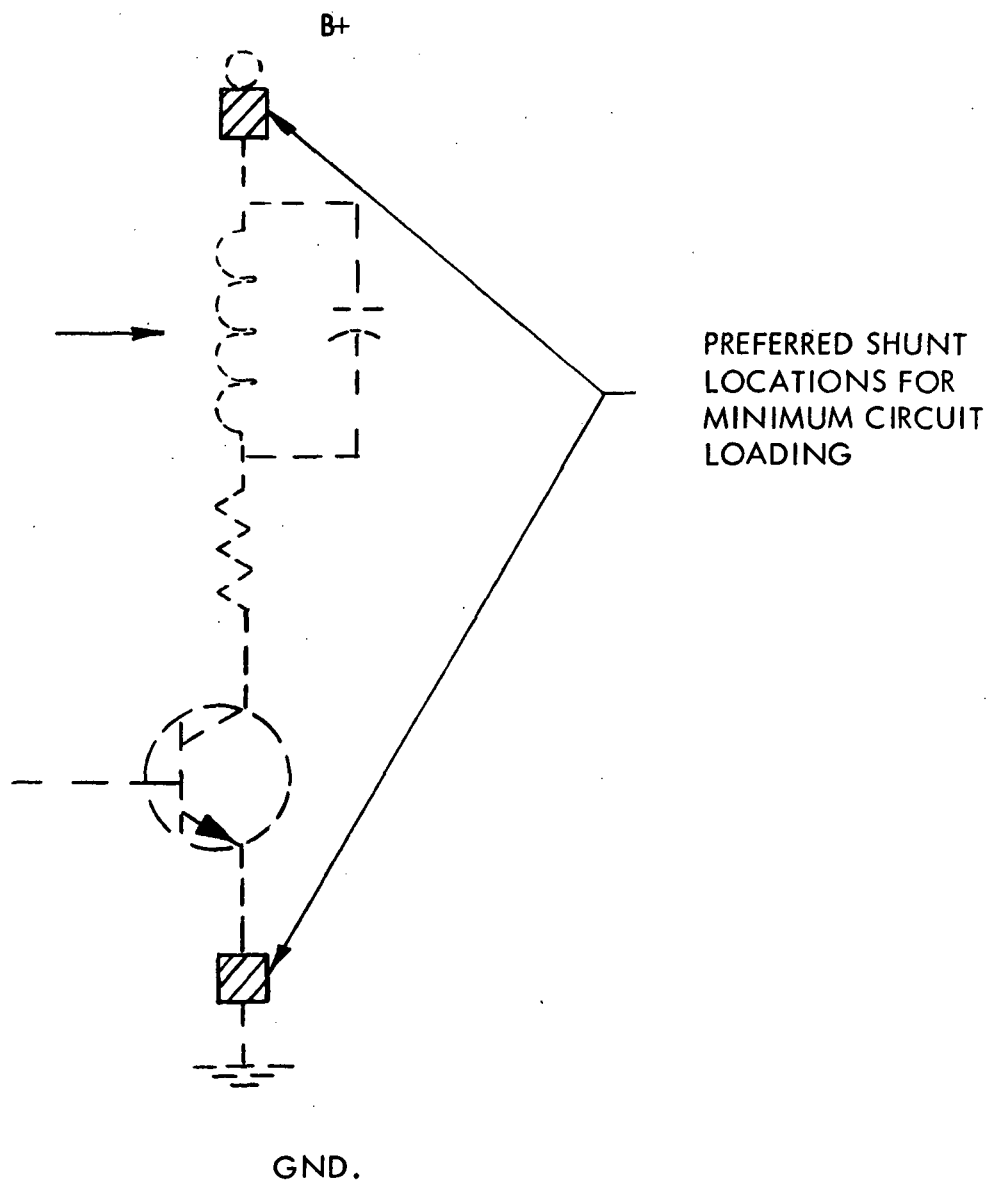

Figure B-2. SHUNT INSTALLATION
13. Place the probe around the conductor under test (or insert the current shunt into the circuit per Figure B-2).